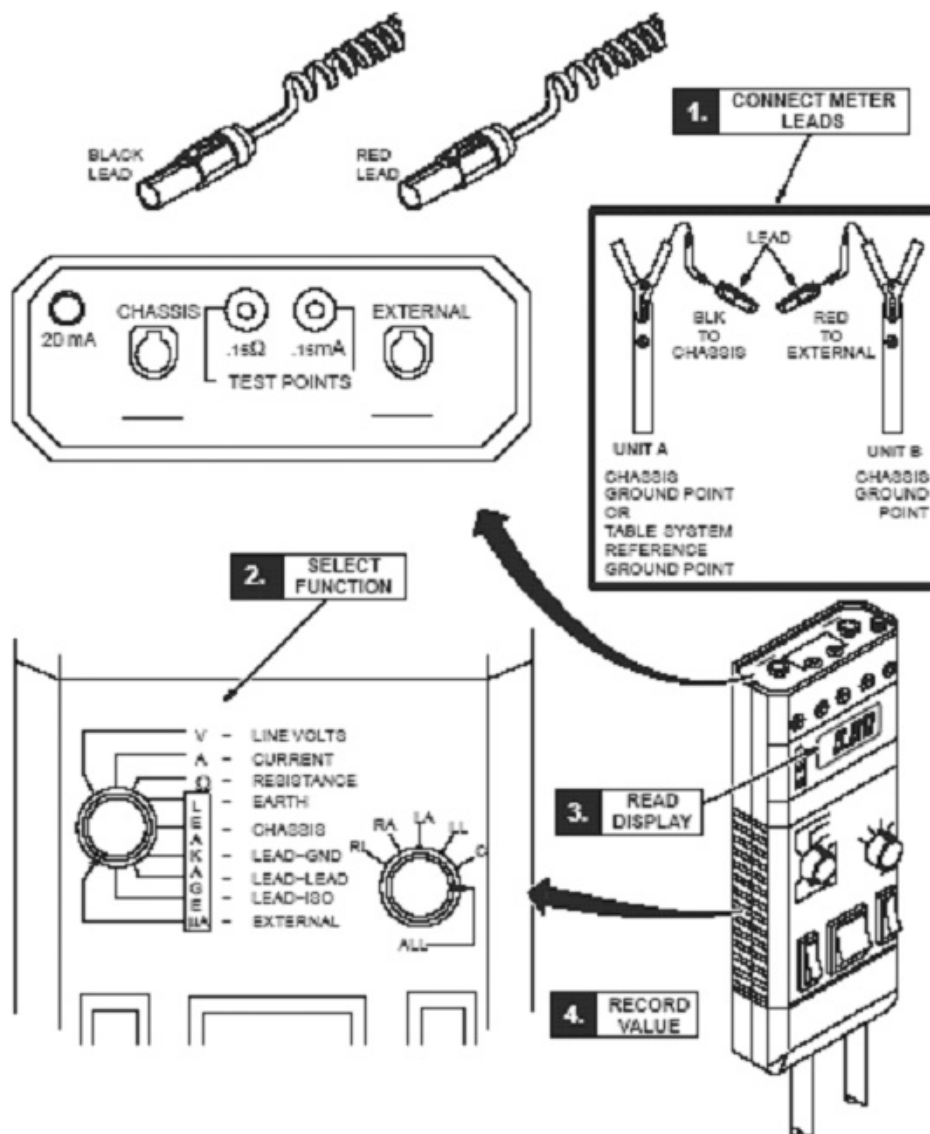

Figure 13-1 Using Dale 600 to Measure Leakage Current
- 1.) See Figure 13-1 for the usage of the Dale 600 meter to measure leakage current.